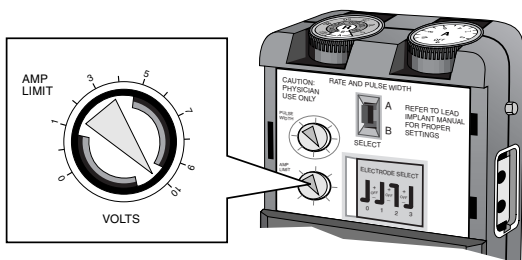

Figure 10. Set Amp Limit to 10 V.
- e. Set the AMP LIMIT control to 10 V, or as desired (Figure 10).